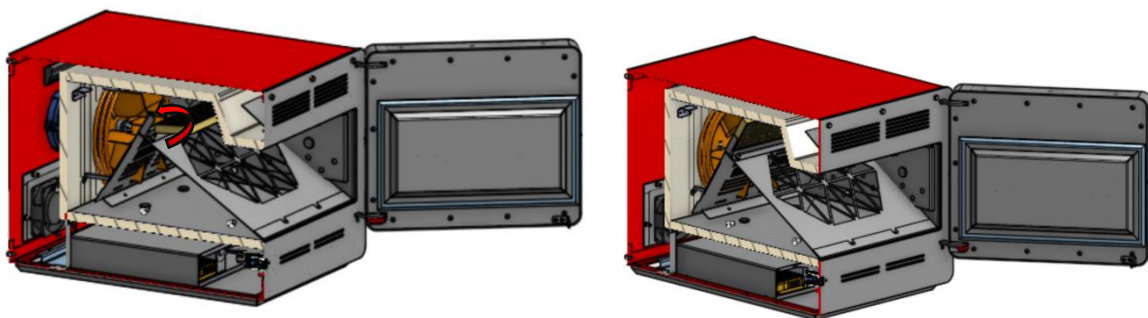

Figure 5. Filter insertion
- Insert the protection plate at an angle (Figure 5) into the chamber and place the filter in the filter holder.